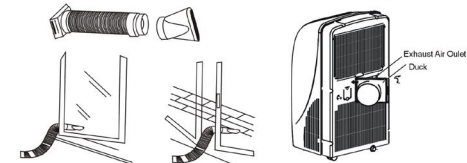

Fig.8
1. Attach one end of the duct to the exhaust air outlet of the mobile air conditioner, first fit the left side of the duct on the exhaust air panel, then the right side duct. Push it downwards, be sure to fix thoroughly. (See the Fig.8)